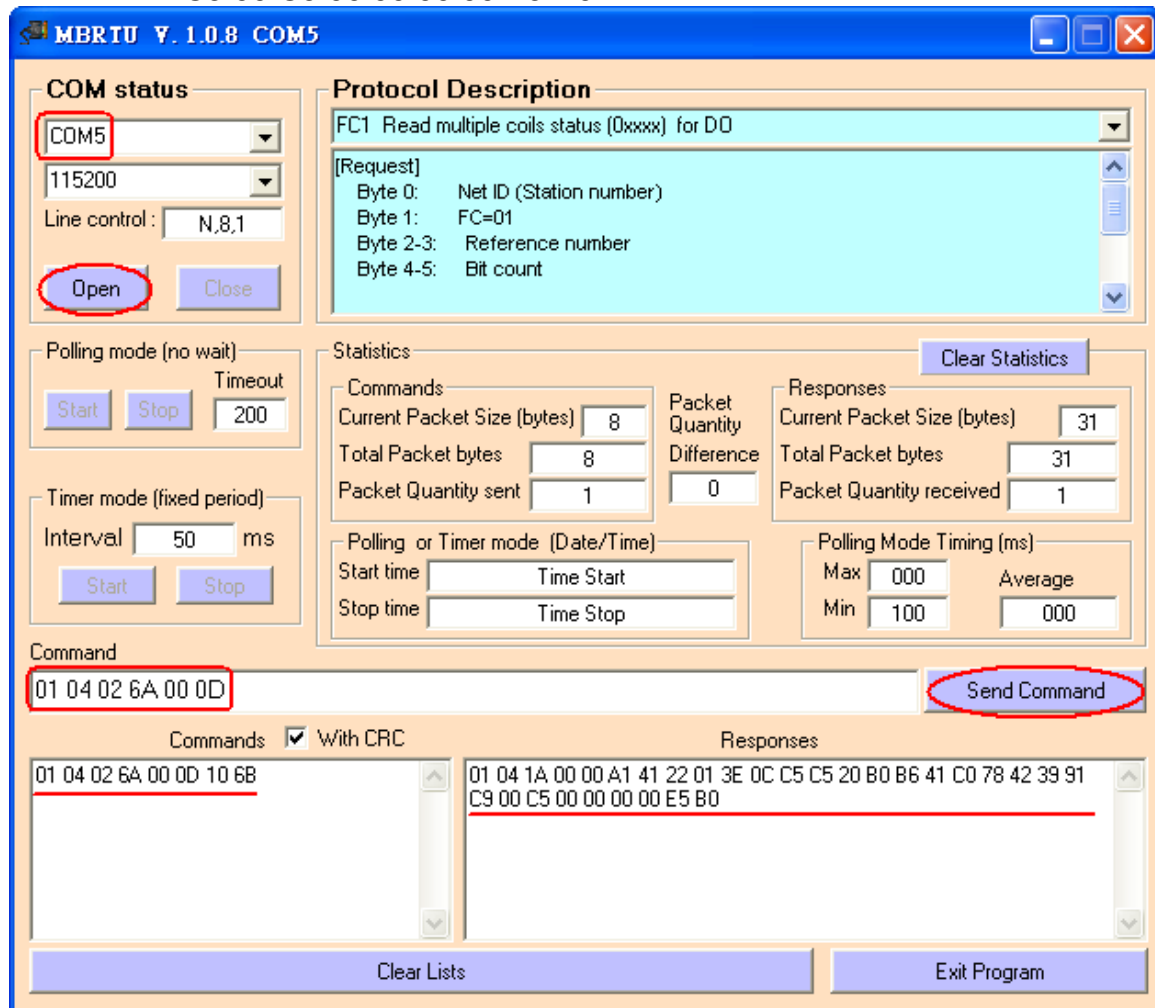

Figure 6-2 Receive HART Command 3 data
(3) Run “MB/RTU” tool. Set the com port settings the same with HART-710 (Baud Rate / Data Bits / Stop Bits / Parity) and then click “Open” button to connect to HRT-710 like Figure 6-2.
(4) Input “**01 04 02 6A 00 0D**” in “Command” field and click “Send Command” button to send the modbus command. The HART command 3 data will be received in “Responses” field => “**01 04 1A 00 00 A1 41 22 01 3E 0C C5 C5 20 B0 B6 41 C0 78 42 39 91 C9 00 C5 00 00 00 00 E5 B0**” like Figure 6-2.